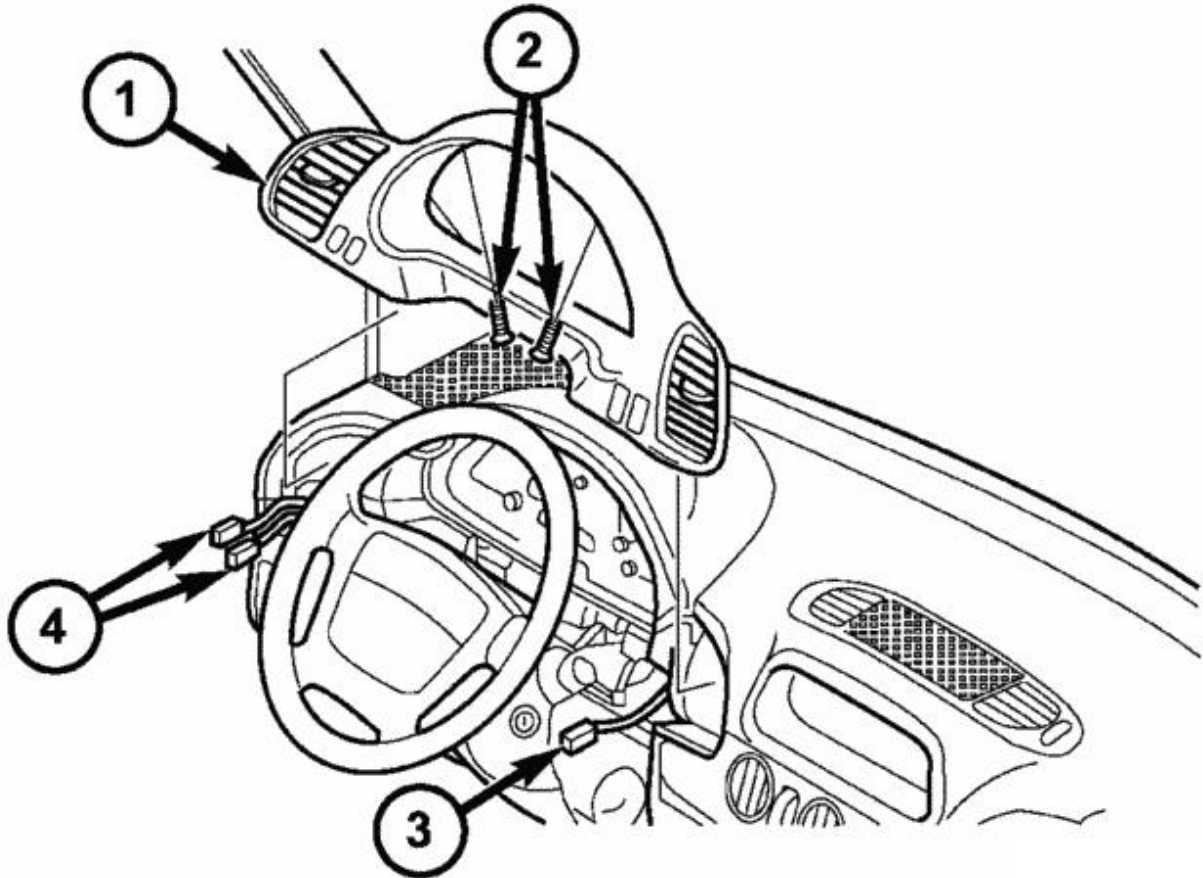

Figure 1 – Instrument Cluster Bezel
17. Remove the screws (2) from the instrument cluster bezel (Figure 1).
18. Using a trim stick C-4755 or equivalent, separate cover (1) (Figure 1).
19. Disconnect electrical connectors (3) and (4) then remove the bezel (Figure 1).